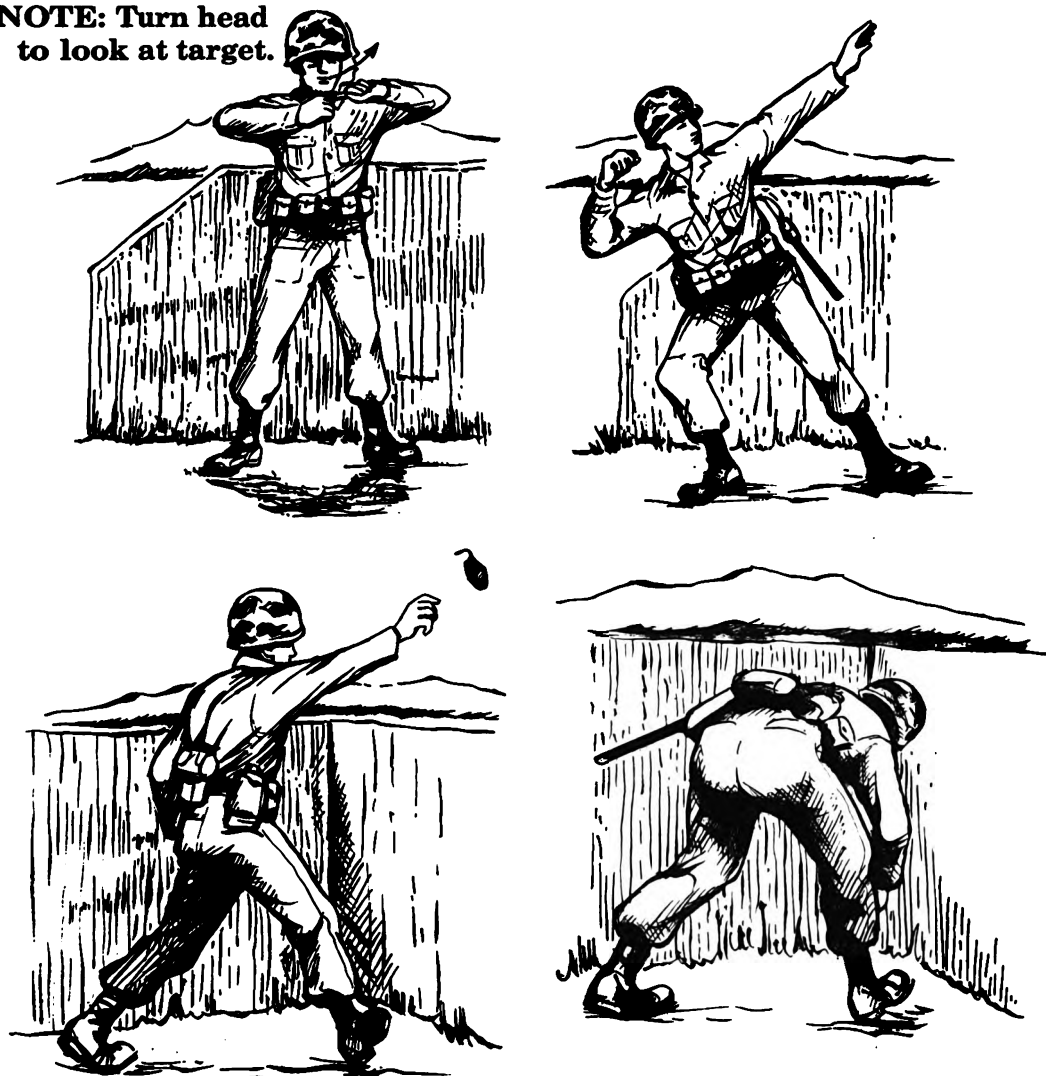

Figure 3. Throwing a grenade.
c. To Throw a Hand Grenade (figure 3):
- (1) Look at the target and judge the distance to it.
- (2) Line your body up so you can throw comfortably.
- (3) Hold the grenade under your chin and with the index finger of your other hand pull and twist the pull ring (at the same time pull the safety clip off the lever with your thumb).
- (4) As the pin is removed, look back at your target.
- (5) Keeping your eye on the target, throw the grenade overhanded.
- (6) Release the grenade after it comes into your field of vision and follow through.